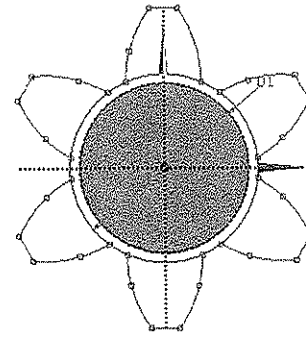

Figure 5-80 Instances of the sketch after being replicated
21. Similarly, create other instances by using the Steps 15 through 17. The instances of the sketch created are shown in Figure 5-80.